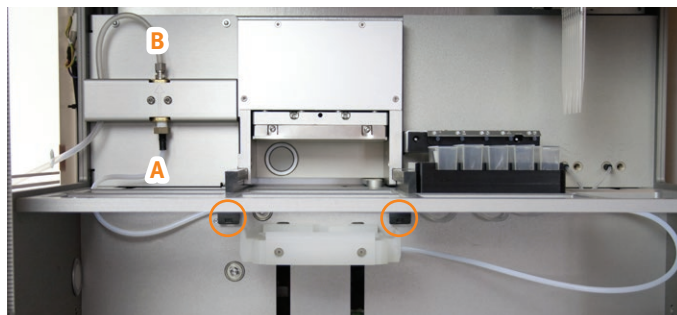

Figure 39. The two waste tubes (A and B). Note the two tube holders/clips above the extraction waste collector.
2. To replace the waste tube connected between the extraction waste collector and the waste valve (see A in Figure 39):
- d. Unscrew the waste tube and replace it. Ensure to secure the tube in the correct position using the holders/clips above the extraction waste collector; see Figure 39.
3. To replace the waste outlet tube connected between the waste valve and the waste reservoir (see B in Figure 39):